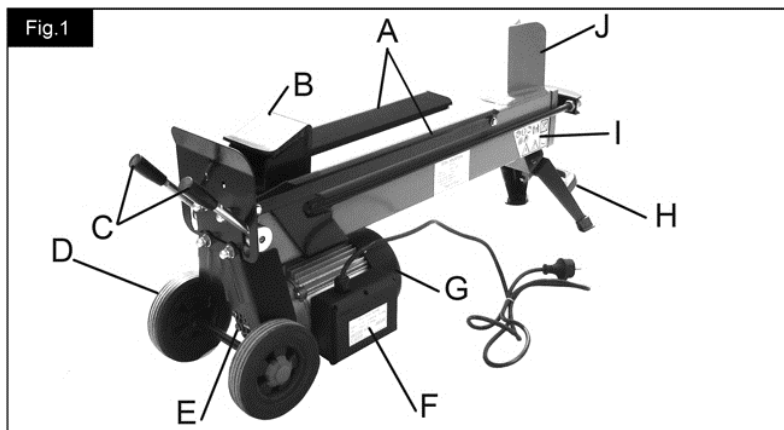

Figure 1: List of major components
Check these components according to the following list and Figure 1.
6. **Place log onto Splitter.** Place the log onto the splitter. Lengthwise and lying flat on the Main Body (I in Figure 1). The log should lie flat on the Splitter and be cradled by the Log guiding plates (A in Figure 1). Never attempt to split a log at an angle . Be sure the Wedge (J in Figure 1) and Log Pusher (B in Figure 1) will contact the log squarely on the ends.
7. **Two hand operation.** Depress the Electric Motor start Switch (Point F in Figure 1) with one hand, Wait a few seconds as the motor spins up and creates pressure in the Hydraulic pump. Then when it is safe to do so, depress the Operating Handles (C in Figure 1). The Log Pusher (B in Figure 1) will compress the log, pushing it against the Wedge (J in Figure 1), splitting the log. Once the log is split, release both of the Operating Handles (C in Figure 1): this will allow the Log Pusher (B in Figure 1) to retract.
1. Release both controls, so that the LOG PUSHER (B in Figure 1) will be fully retracted.
1. Make sure the LOG PUSHER (B in Figure 1) is fully retracted.